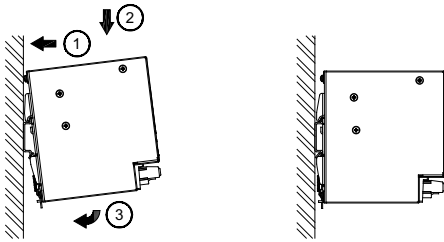

Figure 2
3. Mounting (Fig. 2)
Each device is delivered ready to install. Snap onto the DIN rail as shown in Fig. 2: